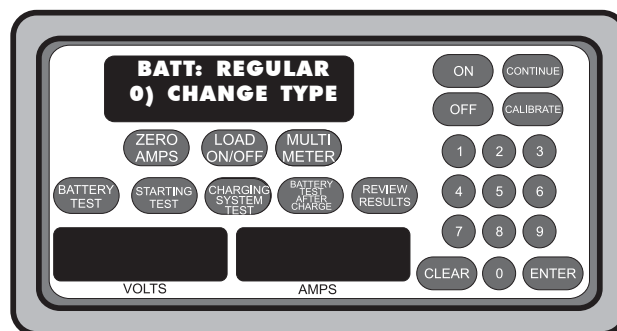

Figure 7
- C. The display reads "BATT: REGULAR 0) CHANGE TYPE" (see Figure 7). Press [Continue] to accept the battery type.